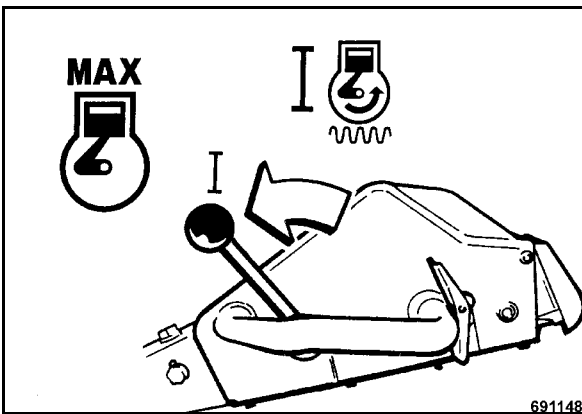

Fig. 19
- Set the throttle lever (Fig. 19) to position "MAX".